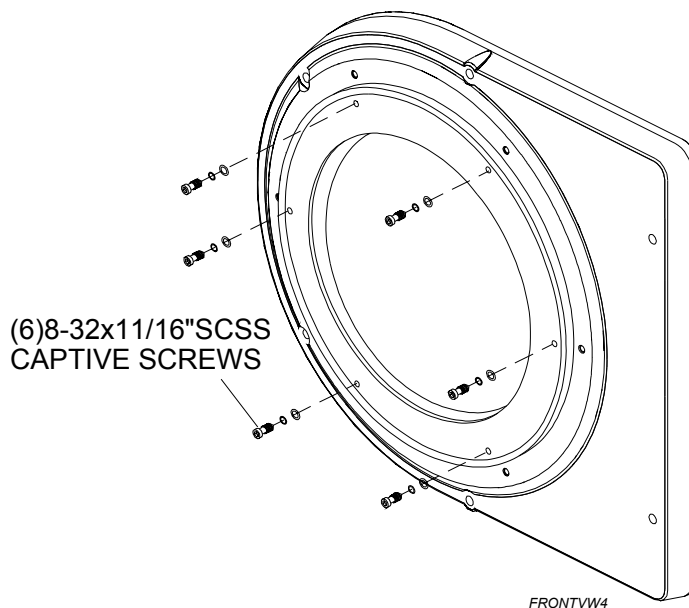

Figure 7.5 - Six Front Lens Clamp Screws Installation
8. At head assembly front lens cap, remove six 8-32x11/16"PPSS captive screws and replace with six 8-32x11/16"SCSS captive screws (Figure 7.5).